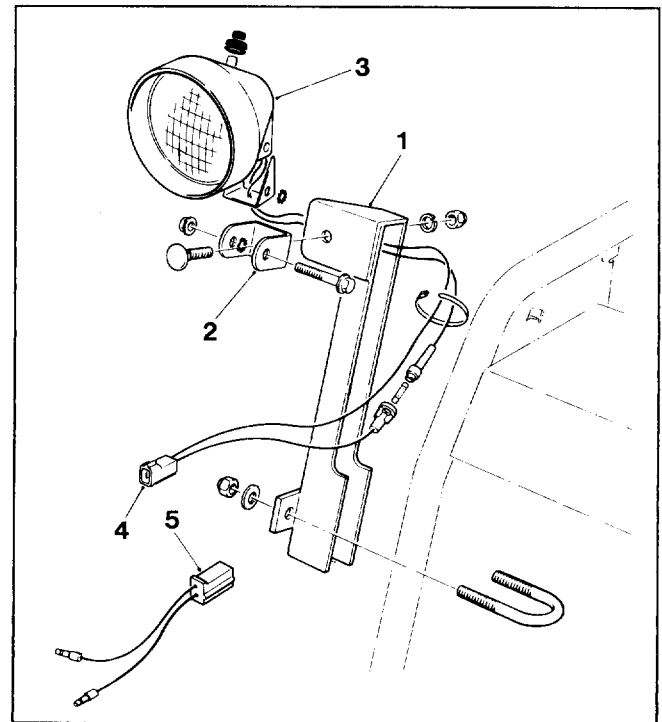

Figure 1
2. Using U-bolt, washers and nuts supplied in kit, loosely secure lamp mount to handle as shown in fig.1.
5. Secure lamp assembly bracket to U-bracket with flange head screw, (2) lockwashers and a flange locknut. Place a washer on each side between the U-bracket and lamp bracket. Do not overtighten.